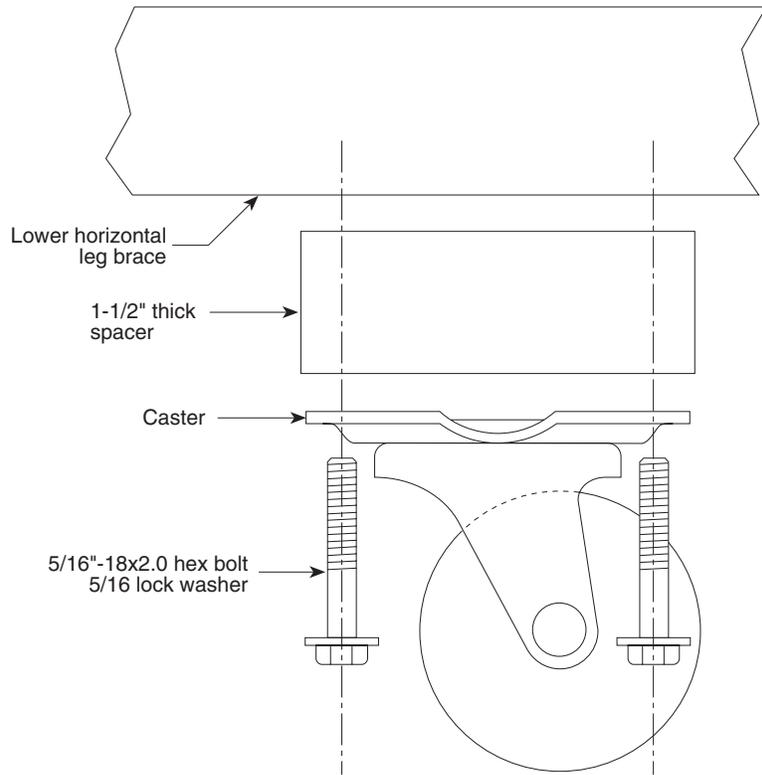

Figure 2.2 — Caster Installation
- C. If casters have been ordered, fasten them to the leg assemblies at the pre-drilled and tapped locations on the lower crossmembers (figure 2.2), placing the 1 $\frac{1}{2}$ " spacers between the caster and the frame. Transferring the load to the casters is accomplished by simply retracting the leveling pads into the legs once assembly is completed.